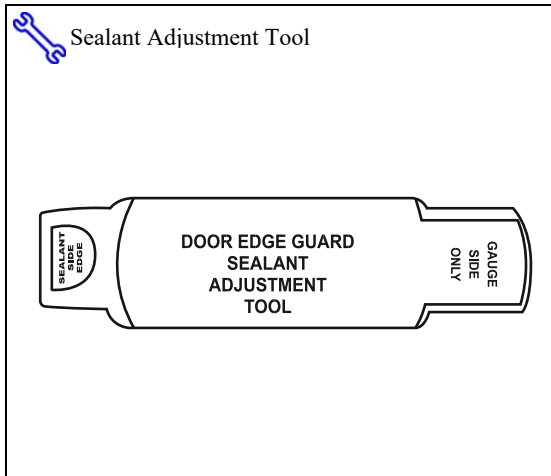

Fig. 3-1
**NOTE:** Use the adjustment tool to verify if sealant is close to the door's edge. This must be done prior to **Door Edge Guard** installation to allow for proper fit (Fig. 3-1).